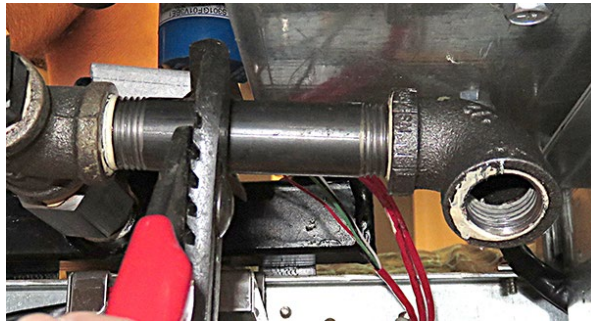

Figure 6
8. Remove nipple and 90° elbow from the "T" (see Figure 6). It may be necessary to slightly rotate the "T" downward to allow room for the elbow to clear the filter motor plate.